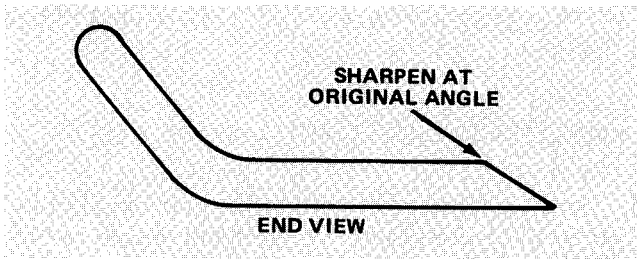

Figure 32
3. Examine cutting edges of all blades. Sharpen the cutting edges if they are dull or nicked. Sharpen only the top side of the cutting edge and maintain the original cutting angle to assure sharpness (Fig. 32). The blade will remain balanced if same amount of metal is removed from both cutting edges.